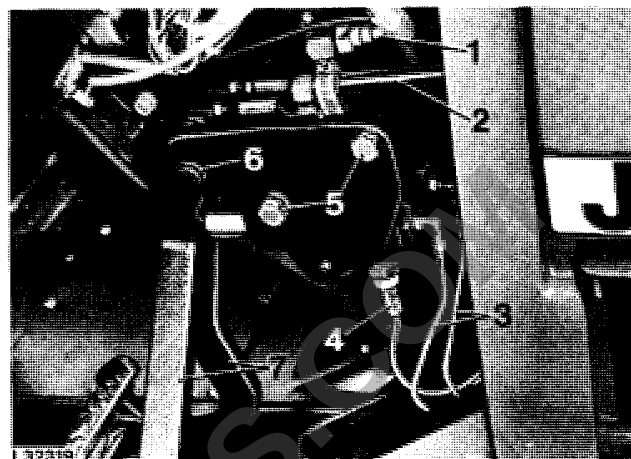

Fig. 5 — Brake Valve Assembly, Installed
5. *When equipped*, pull off connectors 4 (fig. 5) at stop light switch.